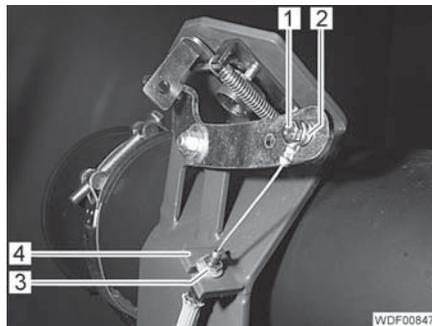

Fig. 57 Locking mechanism of engine hood
- Insert the Bowden cable (Fig. 57,2) into the holder (Fig. 57,4) from the front.
- Tighten the nut (Fig. 57,3).
- Push the screw (Fig. 57,1) through the Bowden cable (Fig. 57,2) and the metal plate and screw tight.